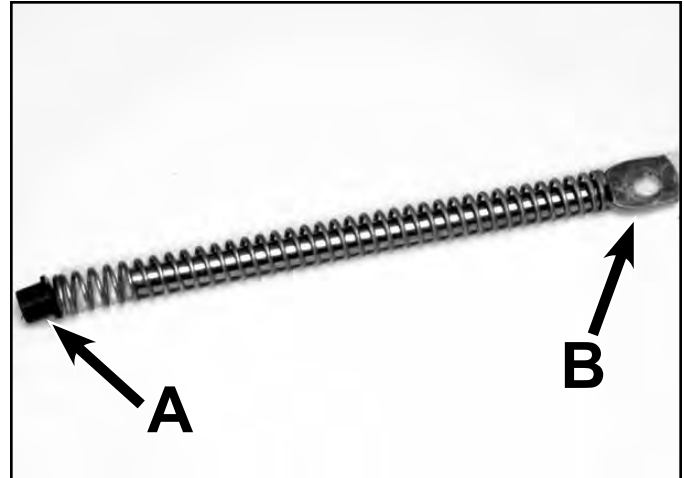

Fig 205
11. Remove the brake plate and hub assembly from the housing and disassemble the seal/oil impregnated bushing, the hub, self-tapping capscrew, and washer from the brake lever. Be careful not to lose the plastic bushing which fits on the end of the brake spring rod (Fig. 205).